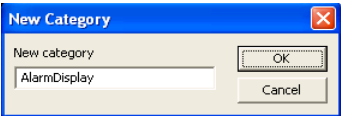

Figure 257. New Category
3. Click **Categories** tab and then click **Add**. The **New Category** dialog appears as shown in Figure 257.